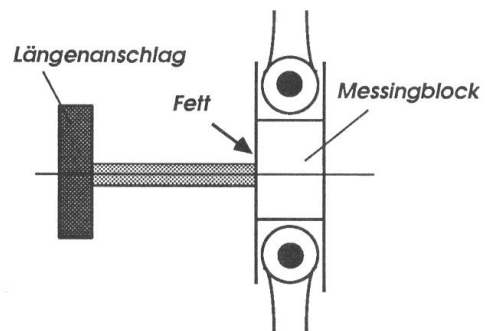

Fig. 10.05
- Apply a little grease between the revolving brass block and the shaft of the distance stop. (Length stop) (Fig. 10.05)